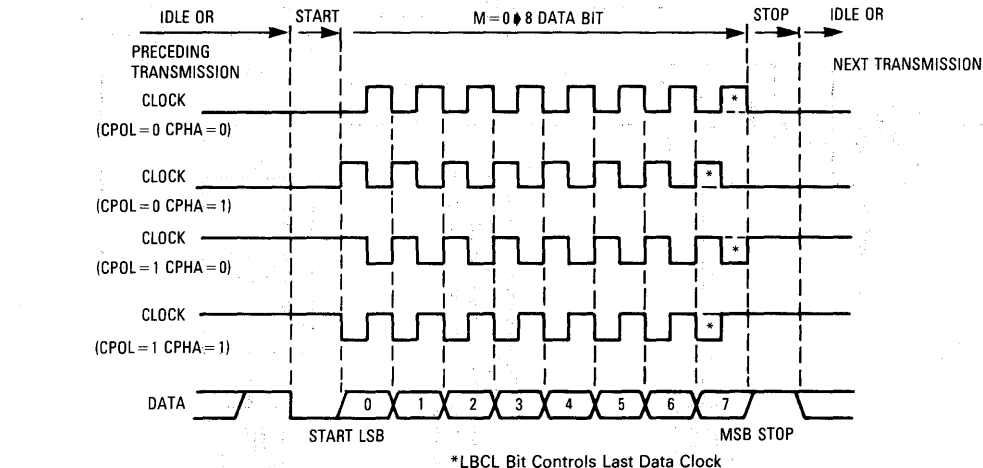

Figure 13. SCI Data Clock Timing Diagram (M = 0)
Receive data in (RDI) is the serial data which is presented from the input pin via the SCI to the receive data register (RDR). While waiting for a start bit, the receiver samples the input at a rate 16 times higher than the set baud rate. This increased rate is referred to as the RT rate. When the input (idle) line is detected low, it is tested for three more sample times. If at least two of these three samples detect a logic low, a valid start bit is assumed to be detected. If in two or more samples, a logic high is detected, the line is assumed to be idle. The receive clock generator is controlled by the baud rate register (see Figure 13); however, the SCI is synchronized by the start bit independent of the transmitter. Once a valid start bit is detected, the start bit, each data bit, and the stop bit are
- 0 = SCLK line activated in the middle of the data bit (see Figures 13 and 14)